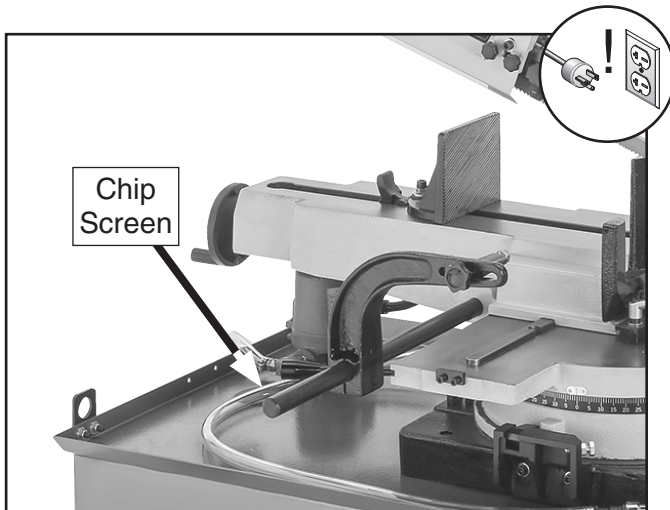

Figure 78. Location of chip screen.
3. Pour coolant through chip screen to fill reservoir with coolant until coolant sight gauge is full (see **Figures 78–79**).